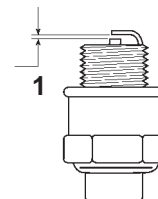

Figure 22
5. Set the gap on the new plug to 0.030 in. (0.76 mm) (Fig. 22).